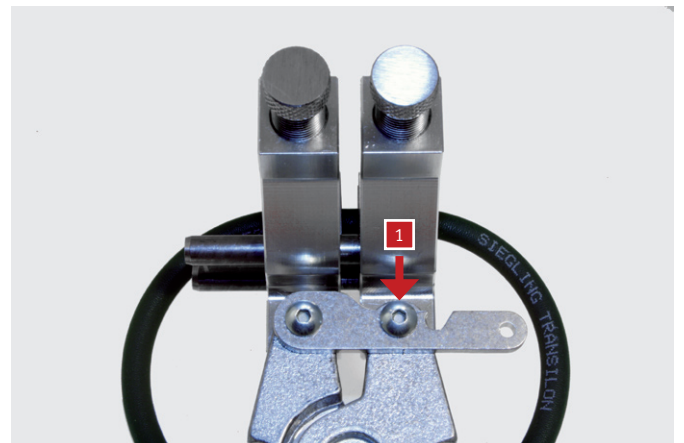

Fig. 3
- Setting 1 for round belts of 3 to 6 mm diameter notch 1 (Fig. 3)